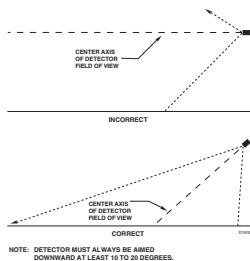

Figure 1—Detector Orientation Relative to Horizon
- The detector should be aimed downward at least 10 to 20 degrees to allow lens openings to drain. See Figure 1. **The detector should be positioned so that its FOV does not cover areas outside the area that requires flame detection monitoring.** This will minimize the possibility of false alarms caused by activities outside the area requiring protection.
(See Figure 1 for Correct Detector Orientation.)